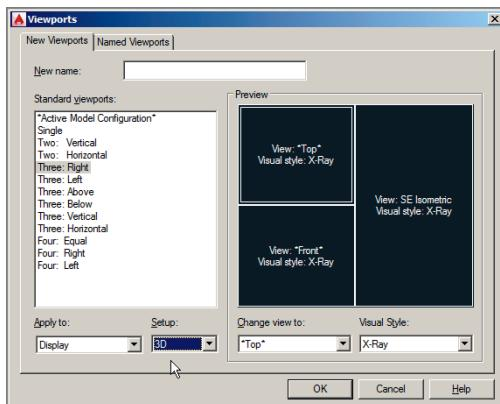

FIGURE 16.8 Configuring viewports
1. Type **VPORTS**, and press Enter. In the Viewports dialog box that appears, select Three: Right in the Standard Viewports list. Open the Setup drop-down menu, and select 3D (see Figure 16.8). Click OK.